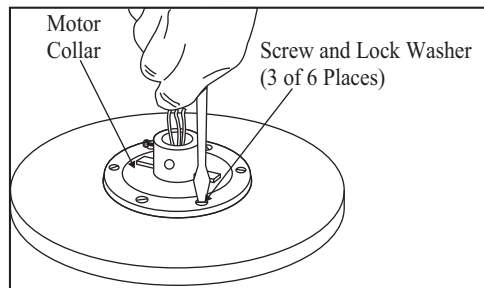

Figure 10
4. Remove three of the six screws and lock washers (every other one) from the collar of top motor. (Figure 10)